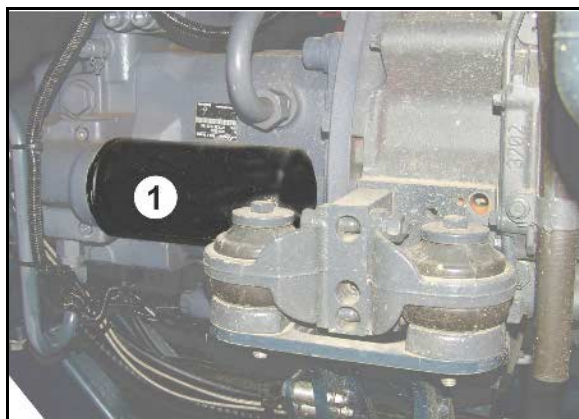

Fig. 187
1. Remove the circulating air grille (Fig. 187/1).